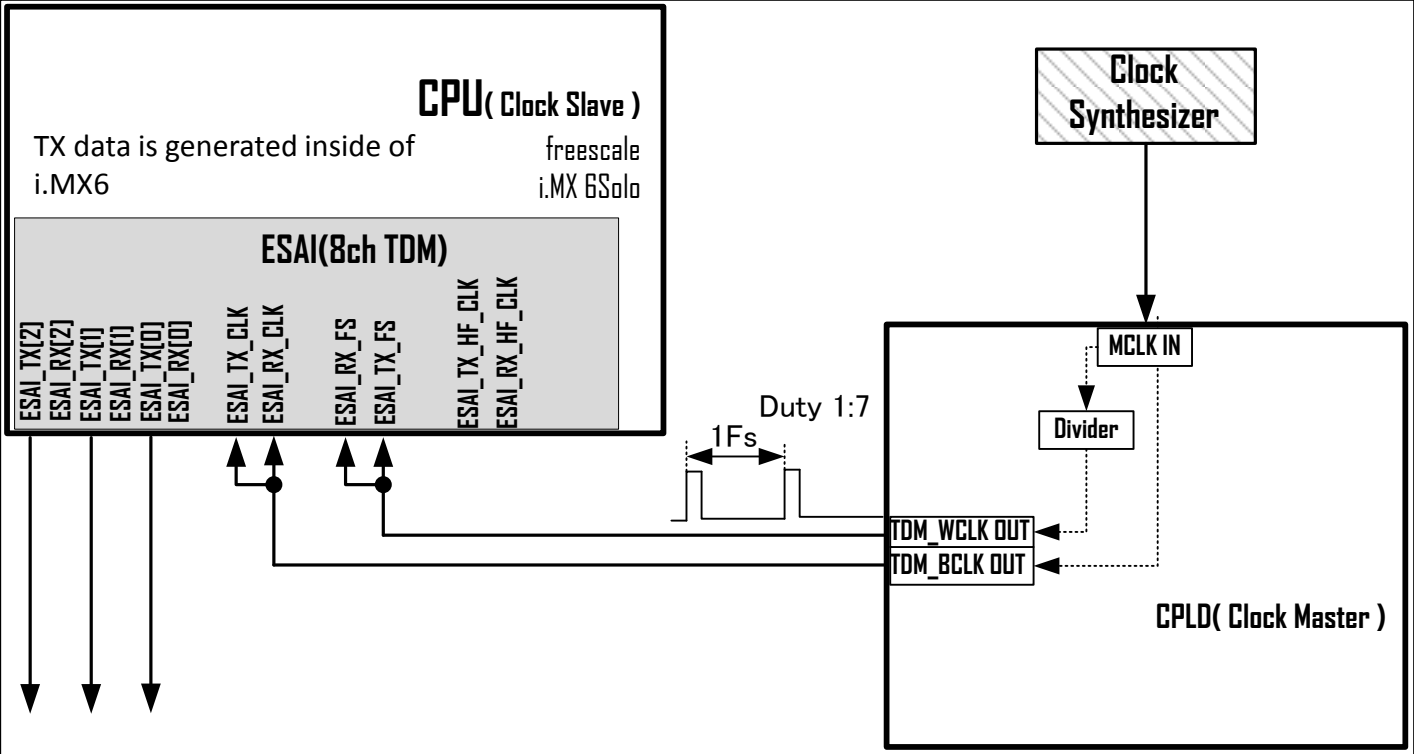

Figure-1
- The customer's system is as Figure-1.